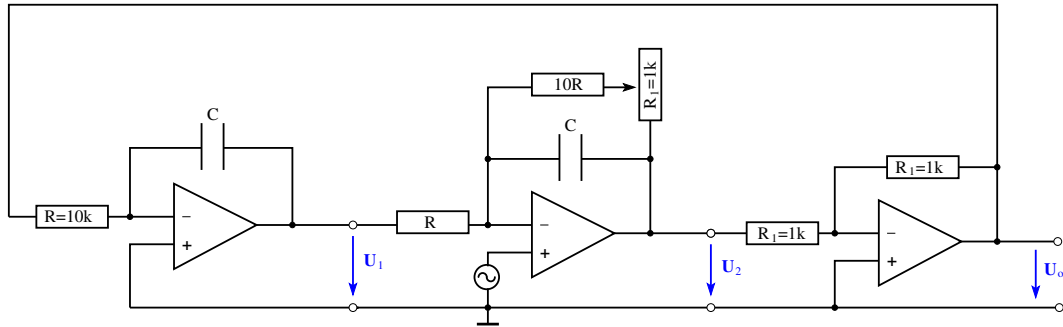

Figure 8: Circuit of an Generator for varying amplitudes
- Which DGL describes the voltage curve at the output of the oscillation generator in Fig. 8 at the point U_a ?
Set up the circuit of a generator with varying amplitude shown in Figure 8. A good choice